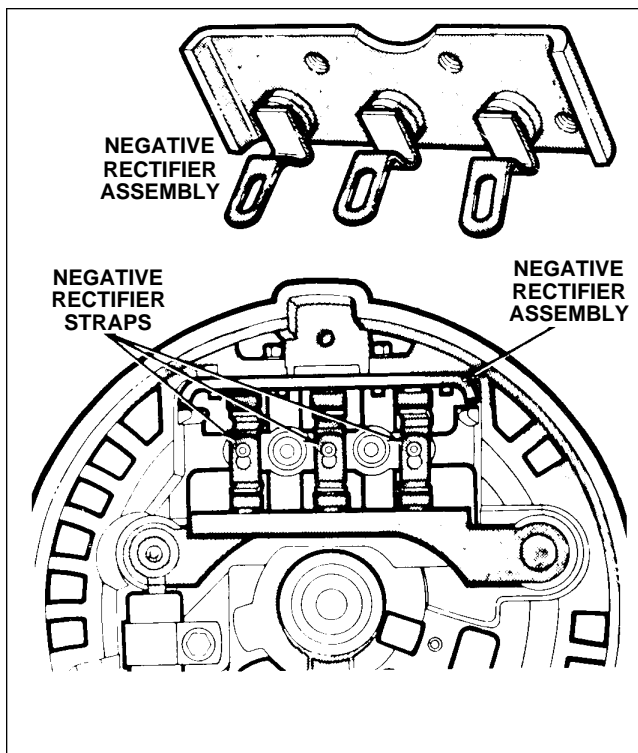

Figure 11-40. Installation of Negative Rectifier Assembly
- o. Position stator over rectifier end shield assembly, and place winding terminals on terminal block studs. Press stator into end shield, and install terminal nuts. Tighten to a torque of 11 to 17 inch-pounds. (Refer to figure 11-40.)